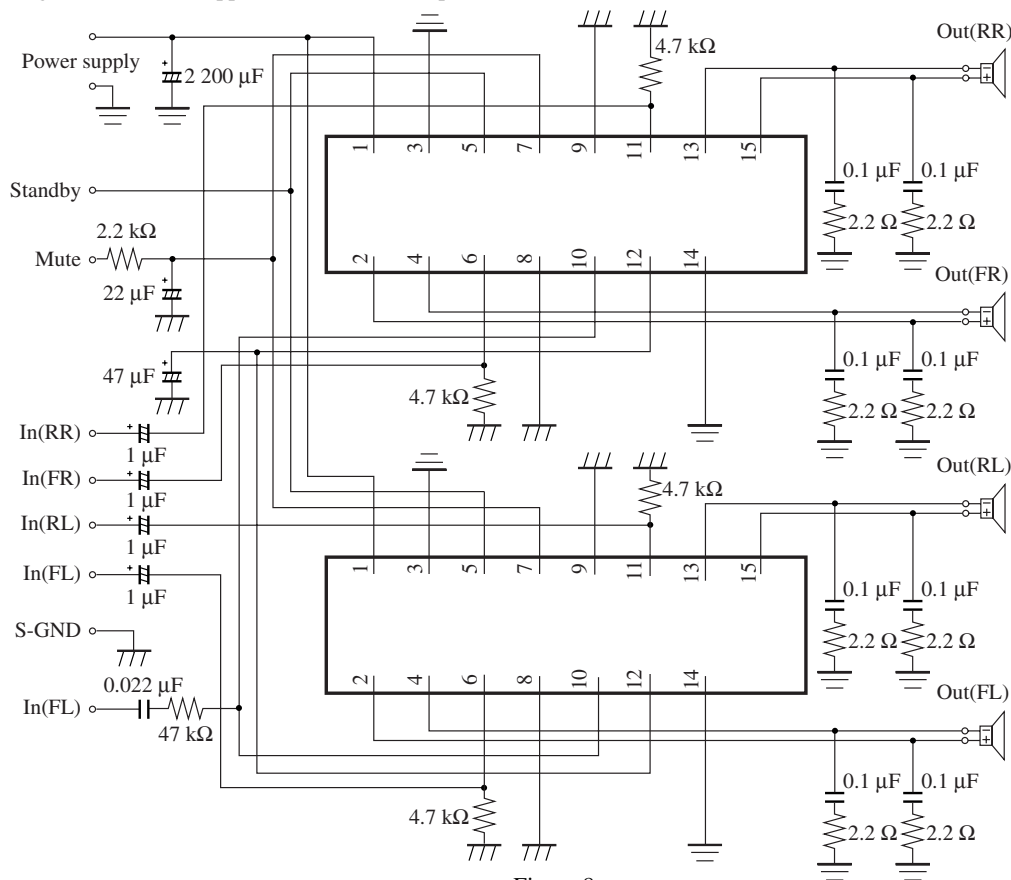

Figure 8
Figure 8 shows the application circuit example when two ICs are used :
6) If one IC is used as a combination of L or R of the front and the rear, the cross-talk between the L and R increases. The circuit shown by figure 8 becomes thermally advantageous when there is a difference in the output between the front and rear.